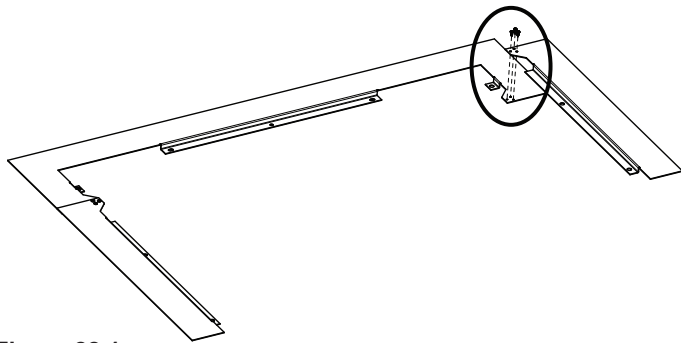

Figure 22.1
3. Repeat steps 1 and 2 for Surround Extension LH Side (**Figure 22.1**).